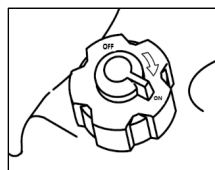

Figure 32
1. Turn the fuel switch to the "ON" position (Figure 32)